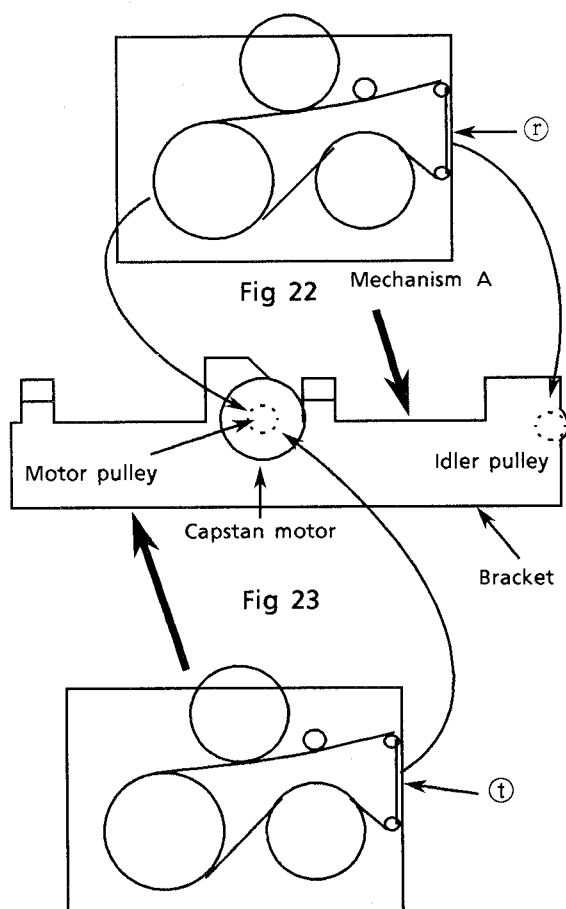

Fig 24 Mechanism B
5. Install the mechanism B installed the belt as shown in fig 24 to the bracket which is assembled with the mechanism A.